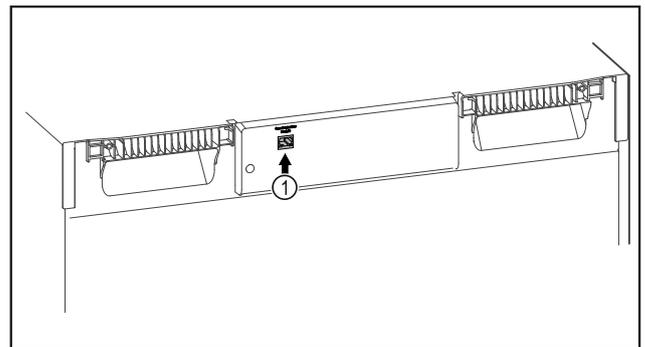

Fig. 105
SmartModule Fig. 105 (1) is in use.